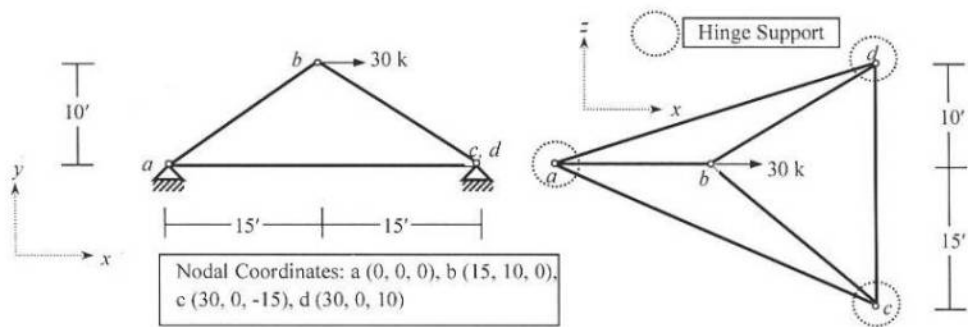

Fig. 5
5. In the three-dimensional truss ABCD shown in *Fig. 5*, ignore zero-force members and formulate the stiffness matrix, load vector and write down the boundary conditions [Given, $EA/L = \text{constant} = 500 \text{ k/ft}$]